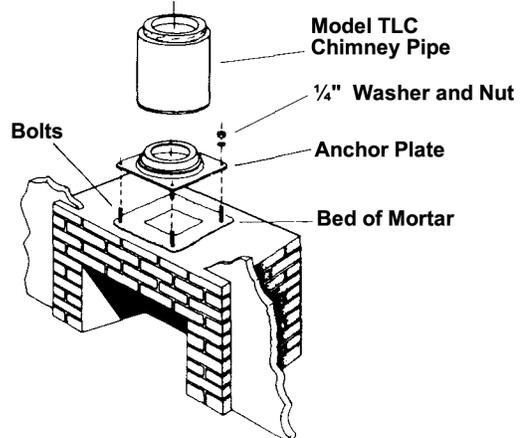

Figure 4 Anchor Plate Installation in Masonry Fireplace
With A-frames, beamed ceilings, etc., observe precautions below for single-wall connector clearances. Single-wall pipe must not pass through framing, wood walls, or into ceiling or roof (Figure 4).
1. Using the anchor plate as a template, centered over the outlet opening, drill and anchor four 1/4" diameter bolts 2" long securely into the top of the masonry fireplace. See Figure 4.